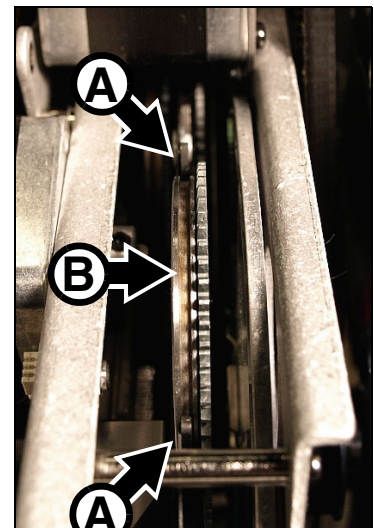

Figure 21: Gobo clip
11. See Figure 21. Push the goboholder back into its clip so that the jaws **A** of the clip engage in the groove **B** around the goboholder and the magnet lines up with your reference point. Rotate the goboholder with a finger to check that it is correctly held in the clip and that the goboholder teeth mesh correctly in the teeth of the actuation cog in the center of the gobo wheel.